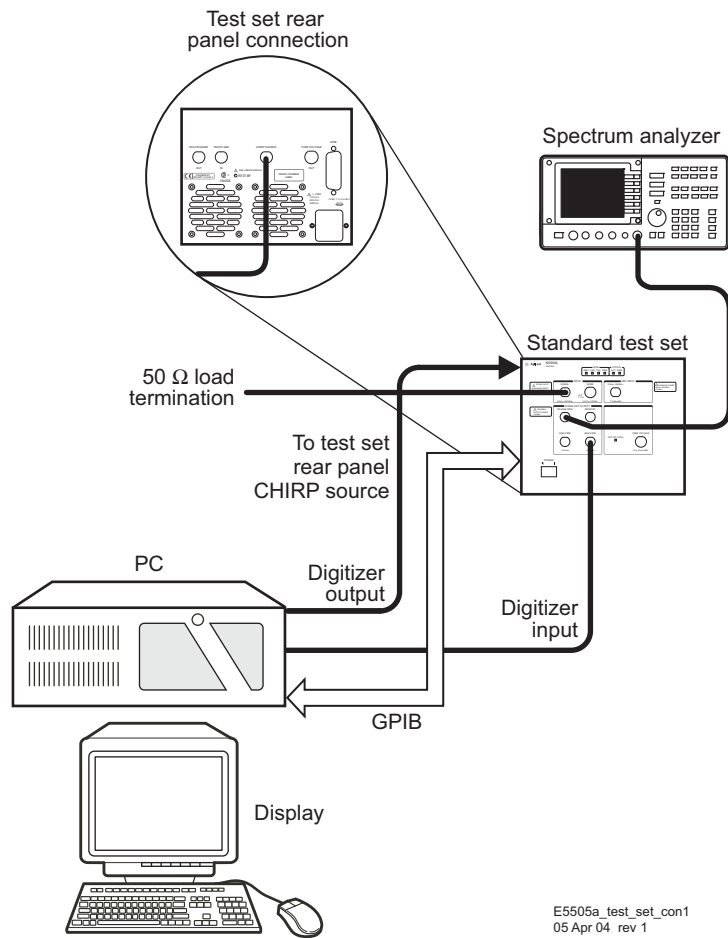
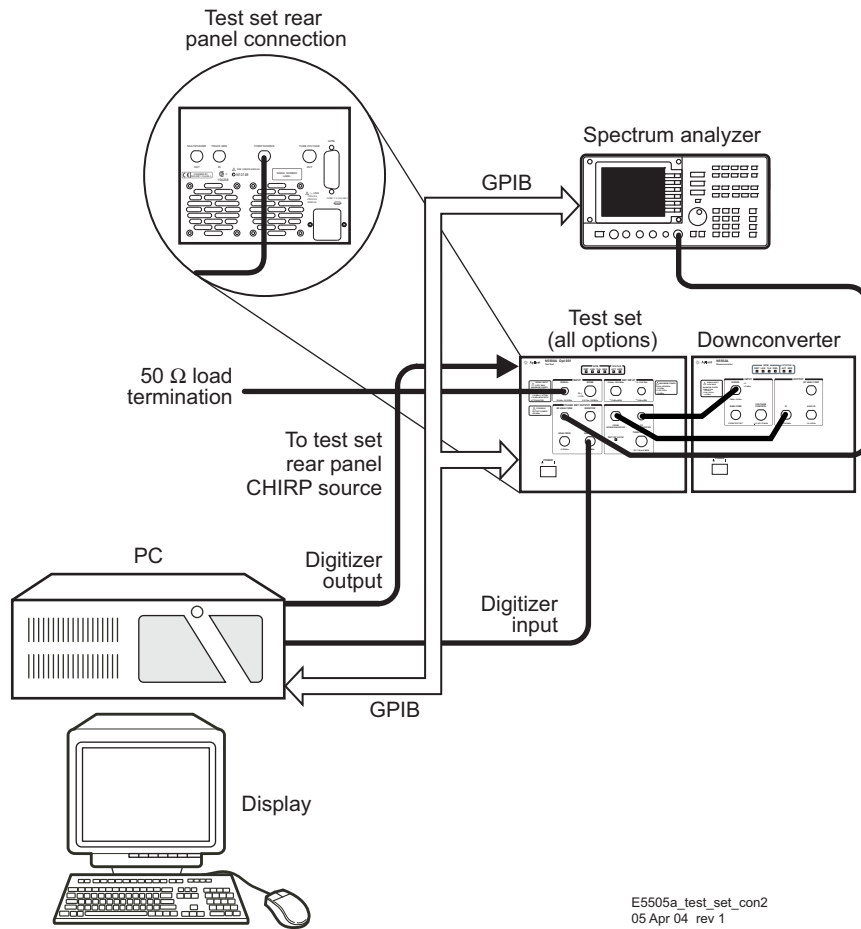

Figure 305 PC to test set connection, standard model
Figure 306 PC to test set (options 001 and 201) and downconverter connection
- 3 Connect the following cables between the PC Digitizer card adapter and the test set (see Figure 305 on page 408 and Figure 306 on page 409):